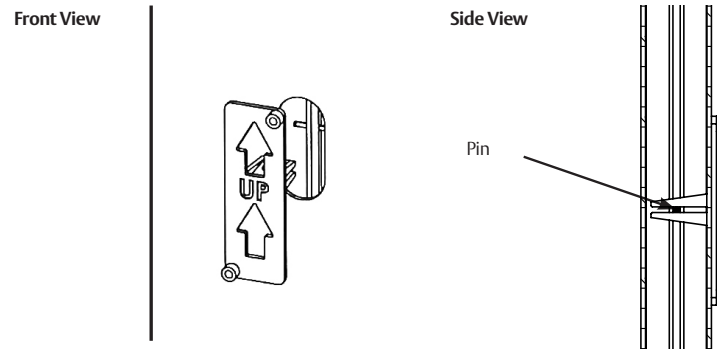

Figure 28
2. Place plastic field template on pin in top rod through oval cut-out in door. (Figure 28)